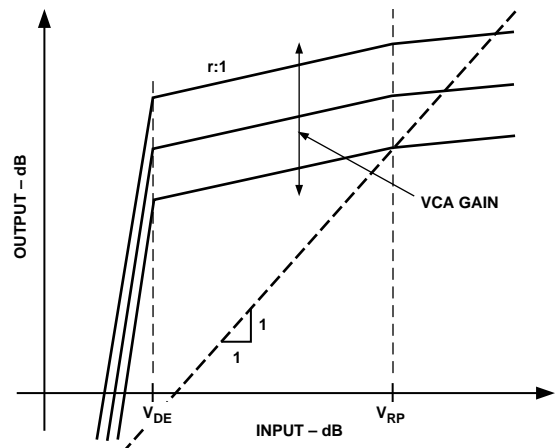

Figure 18. Effect of Varying the VCA Gain Setting
**VCA Gain Setting and Muting.** The maximum gain of the SSM2166 is set by the GAIN ADJUST pin (Pin 2) via  $R_{GAIN}$ . This resistor, with a range between 1 kΩ and 20 kΩ, will cause the nominal VCA gain to vary from 0 dB to approximately 20 dB, respectively. To set the VCA gain to its maximum can also be achieved by leaving the GAIN ADJUST pin in an OPEN condition (no connect). Figure 18 illustrates the effect on the transfer characteristic by varying this parameter. For low level signal sources, the VCA should be set to maximum gain using a 20 kΩ resistor.